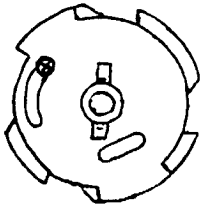
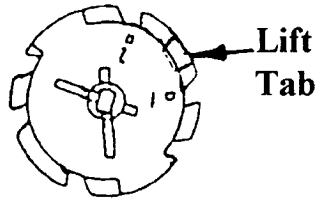

Figure 1
Figure 2
- A. Move the adjustable cam on the vend motor to the number of notches indicated on the shim chart. See figure 1 for Pre-Series 90 cam and figure 2 for Series 90 cam.